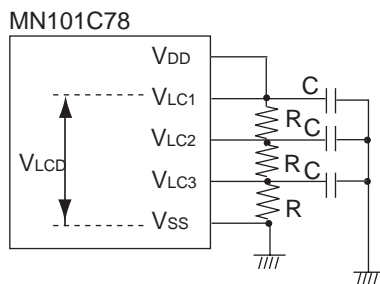

Figure:16.3.1 LCD Power Supply Connection (When using External Voltage Divider Resistors)
Figure:16.3.1 shows example of the LCD power supply connection.
1. In Figure:16.3.1, current always flows through the voltage dividing resistors. The following connection is used to cut the current flowing through these dividing resistors. (at  $V_{CL1} = V_{DD}$ )